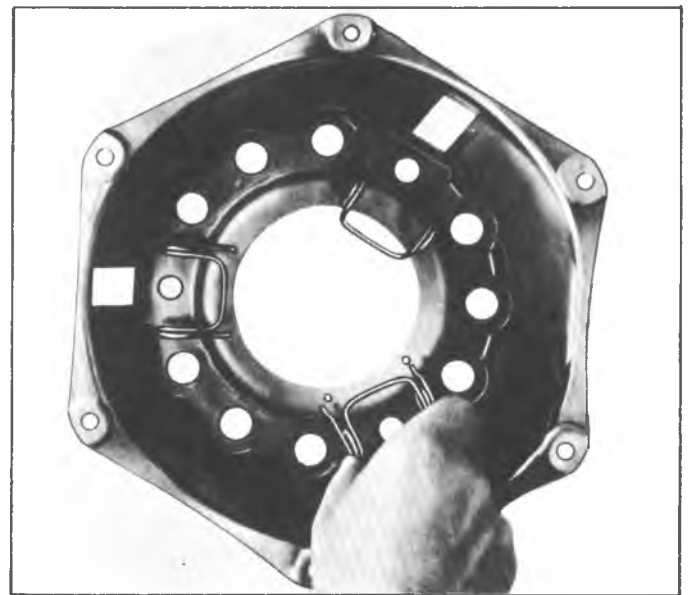

Fig. 9E--Installing Anti-Rattle Spring
7. Assemble anti-rattle springs in cover (Fig. 9E). The spring to the left is in operating position.